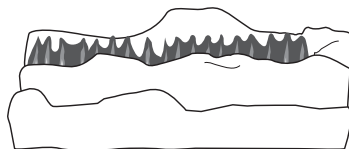
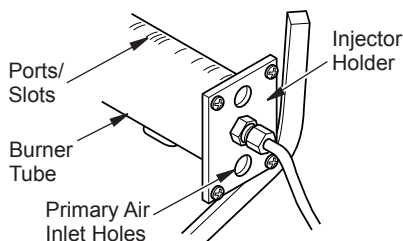

Figure 36 - Correct Burner Flame Pattern
Figure 38 - Injector Holder On Outlet Burner Tube
Figure 36 shows correct front burner flame pattern. Figure 38 shows incorrect front burner flame pattern. The incorrect burner flame pattern shows yellow tipping at top of blue flame.
2. Inspect burner, pilot and primary air inlet holes on injector holder for dust and dirt (see Figure 38).